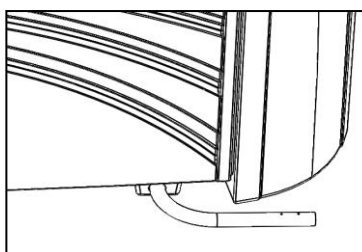

Figure 4
4. First, rotate the BASE TUBE so that it is pointing to the closest end of the spa as shown in Figure 4. Next, insert the thinner end of the SUPPORT TUBE all the way into BASE Tube. Do not use screws yet.